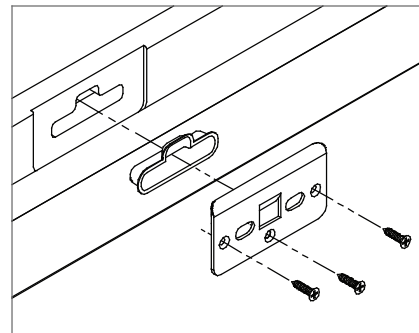

Figure 2
Seat head strike into head strike machining and attach with (3) #8 x 5/8" screws. See Figure 2.